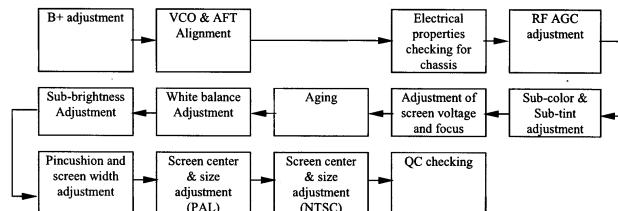

Figure 8-1 Alignment procedure
6. Connect the ComPair interface cable between the connector on the rear side of the ComPair interface (marked with 'I2C') and the ComPair (or Service) connector at the rear side of the TV (for its location see figure 8-1 in chapter "Alignments").